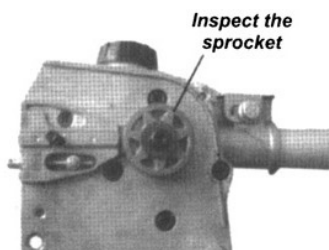

Figure 36
- Remove the sprocket cover and inspect the sprocket for excessive dirt, debris, or wear. Remove the guide bar and clean out the guide bar groove. If the sprocket is excessively worn, replace it with a new one. See Figure 36.